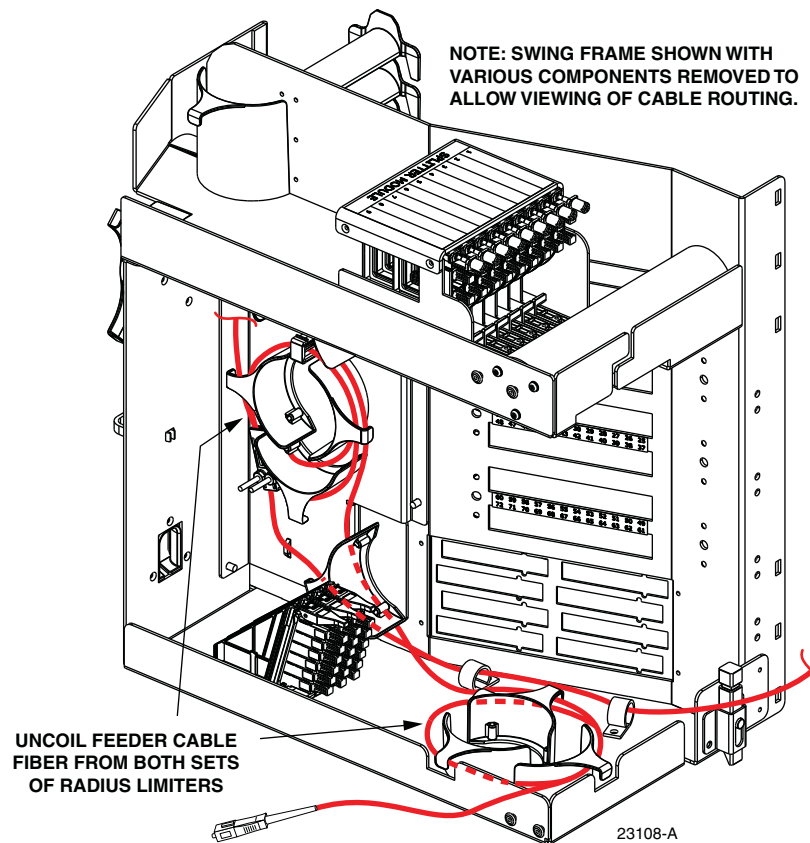

Figure 73. Uncoiling the Feeder Cable Fiber
6. Carefully unwind the feeder fiber from the radius limiters located on the bottom and on the left side of the swingframe. Figure 73 shows the section of the fiber that will need to be released for re-routing. When necessary, backfeed the fiber to free the connector from the remaining fibers.